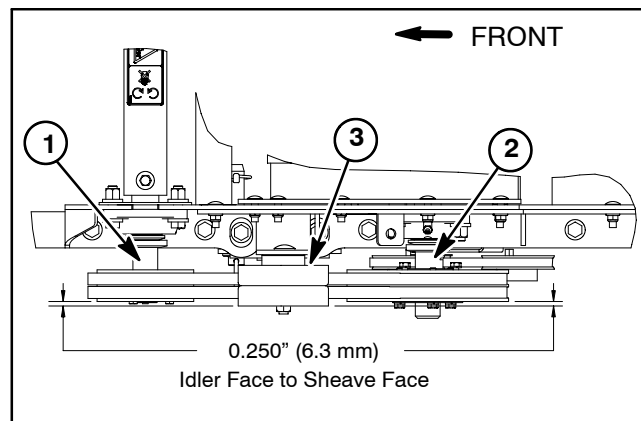

Figure 24
**IMPORTANT:** After adjusting belt tension, check that distance from idler pulley face to the faces of the drive and driven pulleys is correct (Figs. 24 and 25). This distance is necessary to ensure that idler pulley is correctly aligned to drive belts. If necessary, re-adjust positions of drive and driven pulleys to allow correct distance.